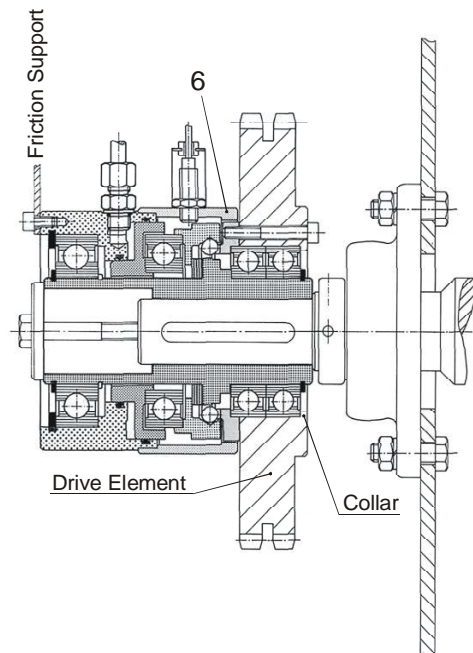
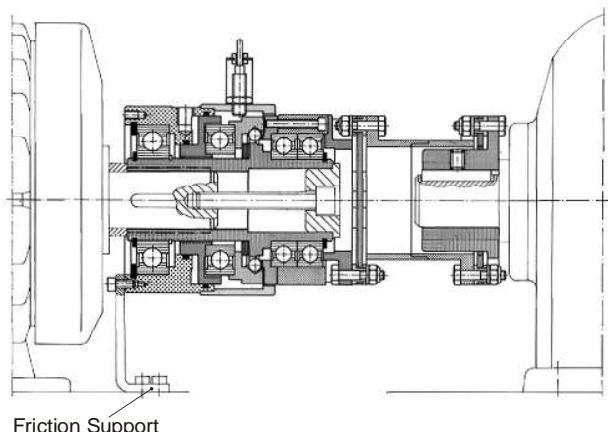

Fig. 2
Fig. 3
The drive elements must be secured against axial movement in the direction of the sealing cover (6) (on pressureless clutch), via a collar, a locking ring or similar component. (see Fig. 3). If the resulting radial force from the drive element lies anywhere near both of the ball bearings (7), an additional drive bearing element will not be necessary (see Fig. 2).
Mounting the clutch onto the shaft (Figs. 2 and 3)
The device is fixed axially onto the shaft via a press cover and a screw, screwed into the central thread of the shaft (see Figs. 2 and 3).
On EAS[®]-Sp with torsionally rigid flexible all-steel couplings, a set screw holds the hub (28) of the flexible coupling onto the shaft (Fig. 3).
The friction support may not place forces worthy of note onto the clutch or cause tensions on the stator part (5) bearing (see Figs. 2 and 3).